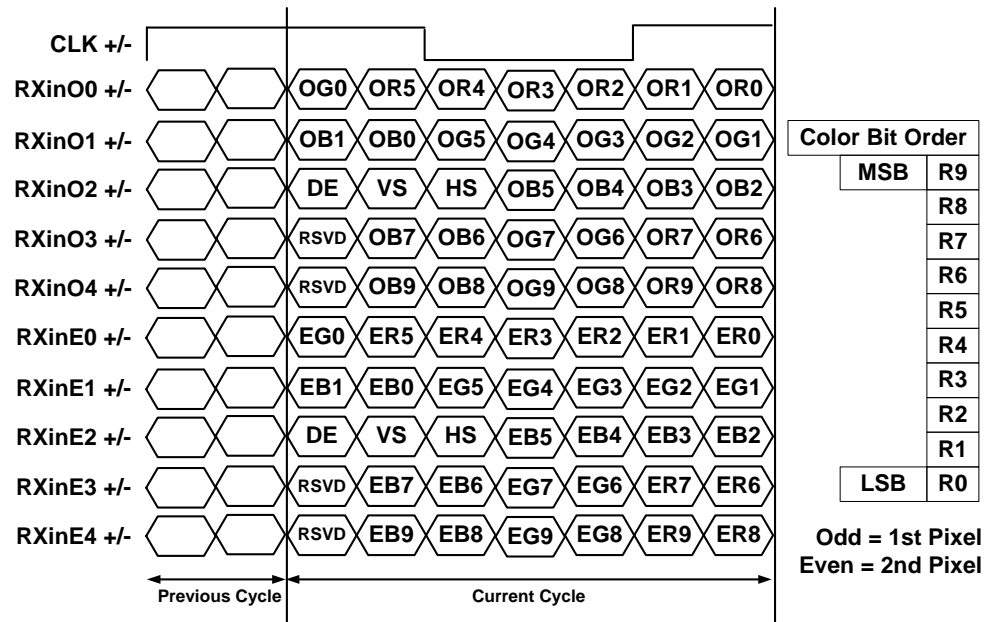

Figure 5-3 - LVDS Data/Color Mapping for Dual Channel, 10-bit panel
- Figure 5-3 shows the LVDS Data Color Mapping for a 10-bit 1080p (dual channel) panel.